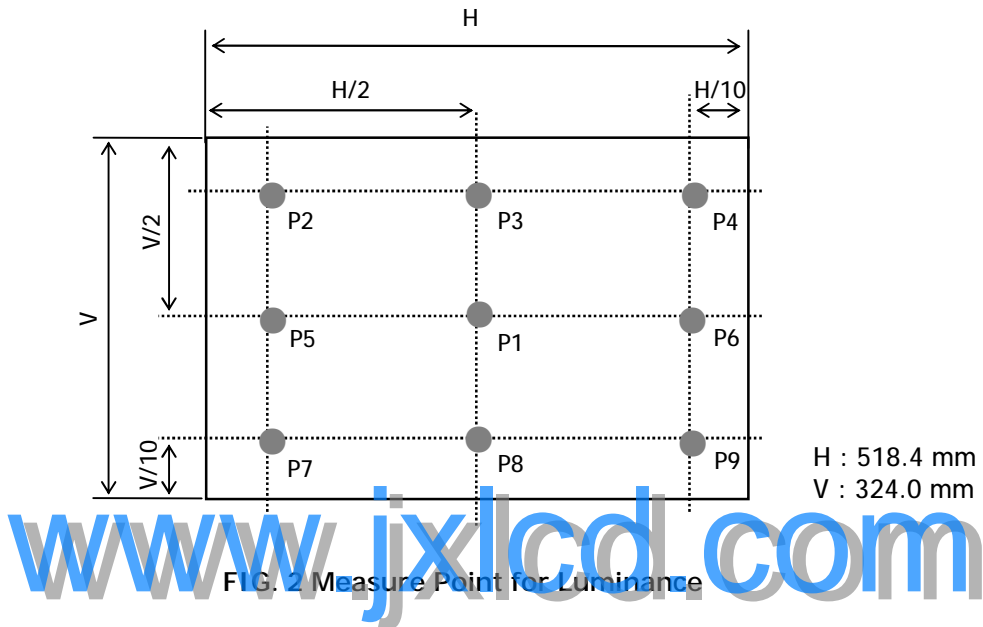

FIG. 2 Measure Point for Luminance
[Figure 2] Power dip condition
2. Surface luminance(L_{WH})is luminance value at 5 points average across the LCD surface 50cm from the surface with all pixels displaying white. For more information see FIG 2. (By PR880)
For more information see FIG 2.